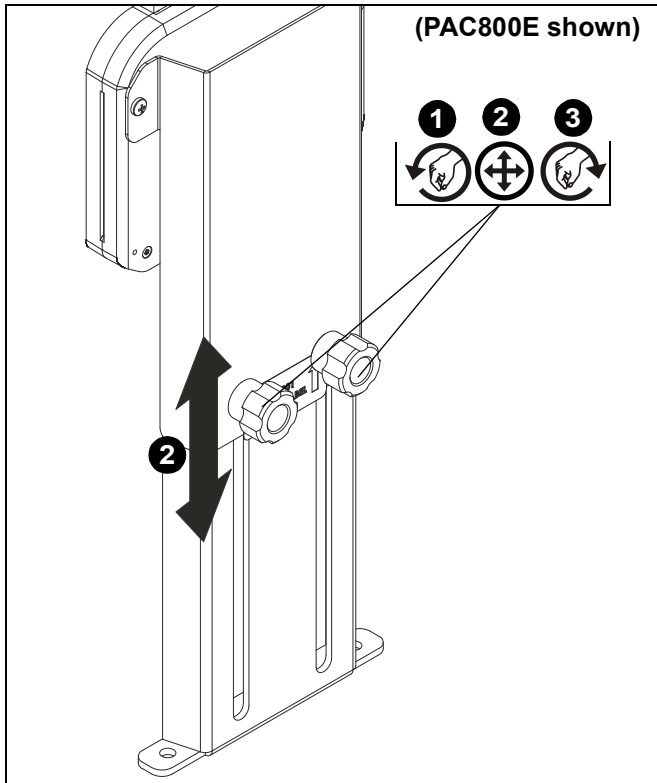

Figure 4
1. Loosen two adjustment knobs on the back of the main bracket (A). (See Figure 4)
2. Raise or lower bracket to desired height. (See Figure 4)
3. Tighten two adjustment knobs on the back of the bracket until mount is secure. (See Figure 4)